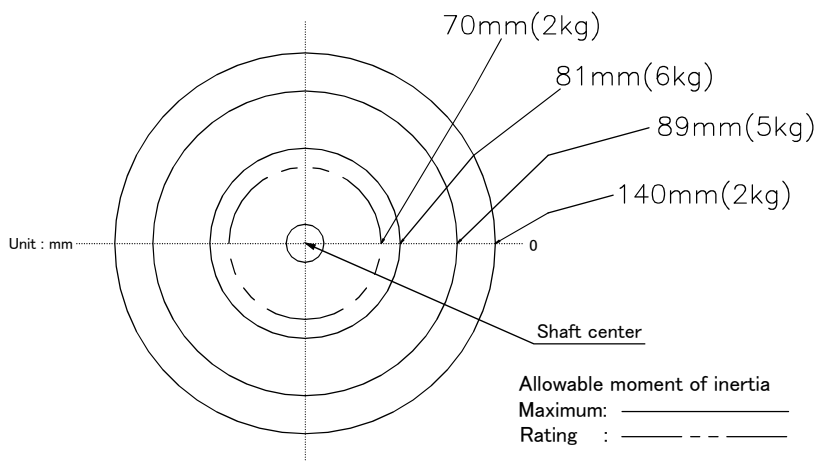
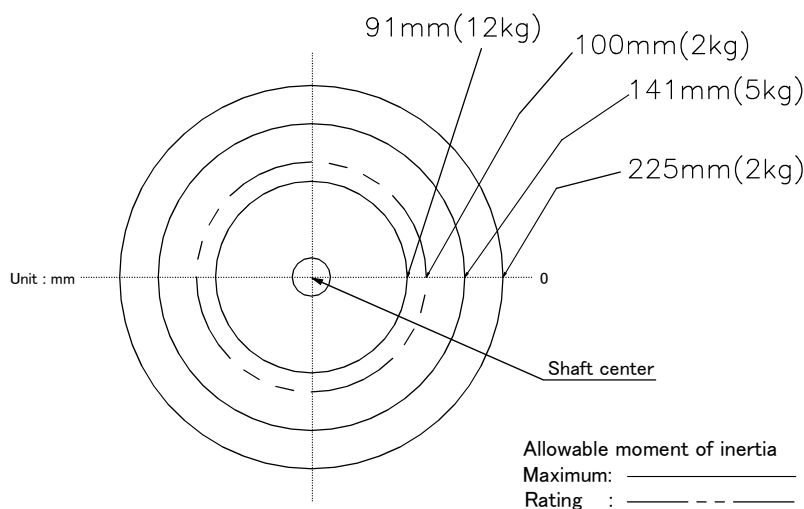
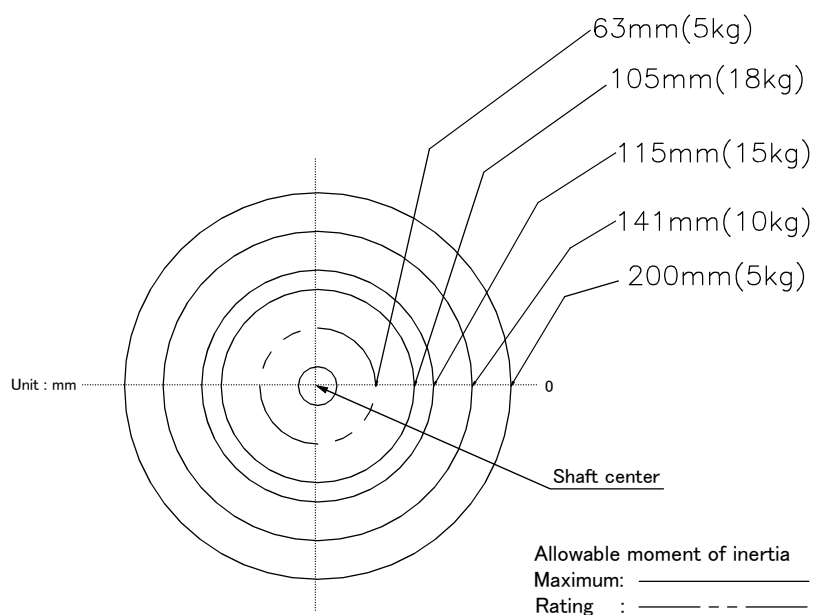

Fig.2-3 : Position of center of gravity for loads (for loads with comparatively small volume): RH-6SQH series
Fig.2-4 : Position of center of gravity for loads (for loads with comparatively small volume): RH-12SQH series
Fig.2-5 : Position of center of gravity for loads (for loads with comparatively small volume): RH-18SQH series
- (1) The tooling should have the value less or equal than the smaller of the tolerable inertia and the tolerable moment found in Page 10, "2.1 Standard specifications".
- (2) Fig. 2-3, Fig. 2-4, Fig. 2-5, Fig. 2-6 and Fig. 2-7 shows the distribution dimensions for the center of gravity in the case where the volume of the load is relatively small. Use this figure as a reference when designing the tooling.